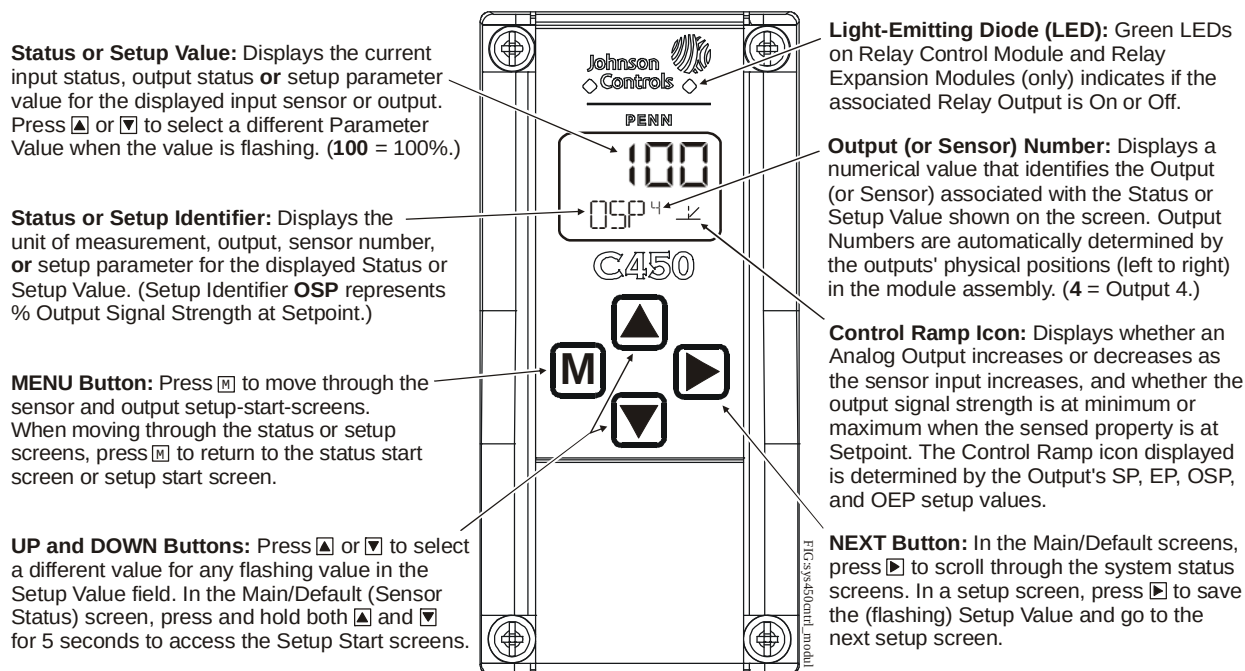

Figure 4: System 450 Control Module Output Analog LEDs, LCD, Four-Button Touch Pad User Interface
System 450 control modules have a back-lit LCD and a four-button touch pad User Interface (UI) that enable you to set up all of the inputs (sensors) and outputs in the module assembly (Figure 4).
IMPORTANT: Each time a module assembly is powered ON, the control module polls all of the modules to identify output type (relay or analog) and assigns a sequential output number (1 to 9 [0 = 10]) to each output starting with the control module output on the left. The output numbers identify each output's setup screens in the UI. (See Figure 4.)